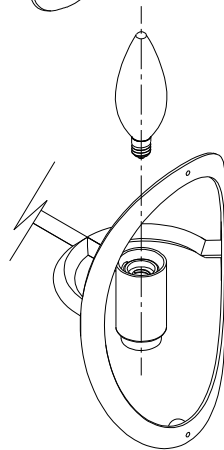

FIGURE-04
6. Place the bulb into the socket of the fixture. (SEE FIGURE-04)